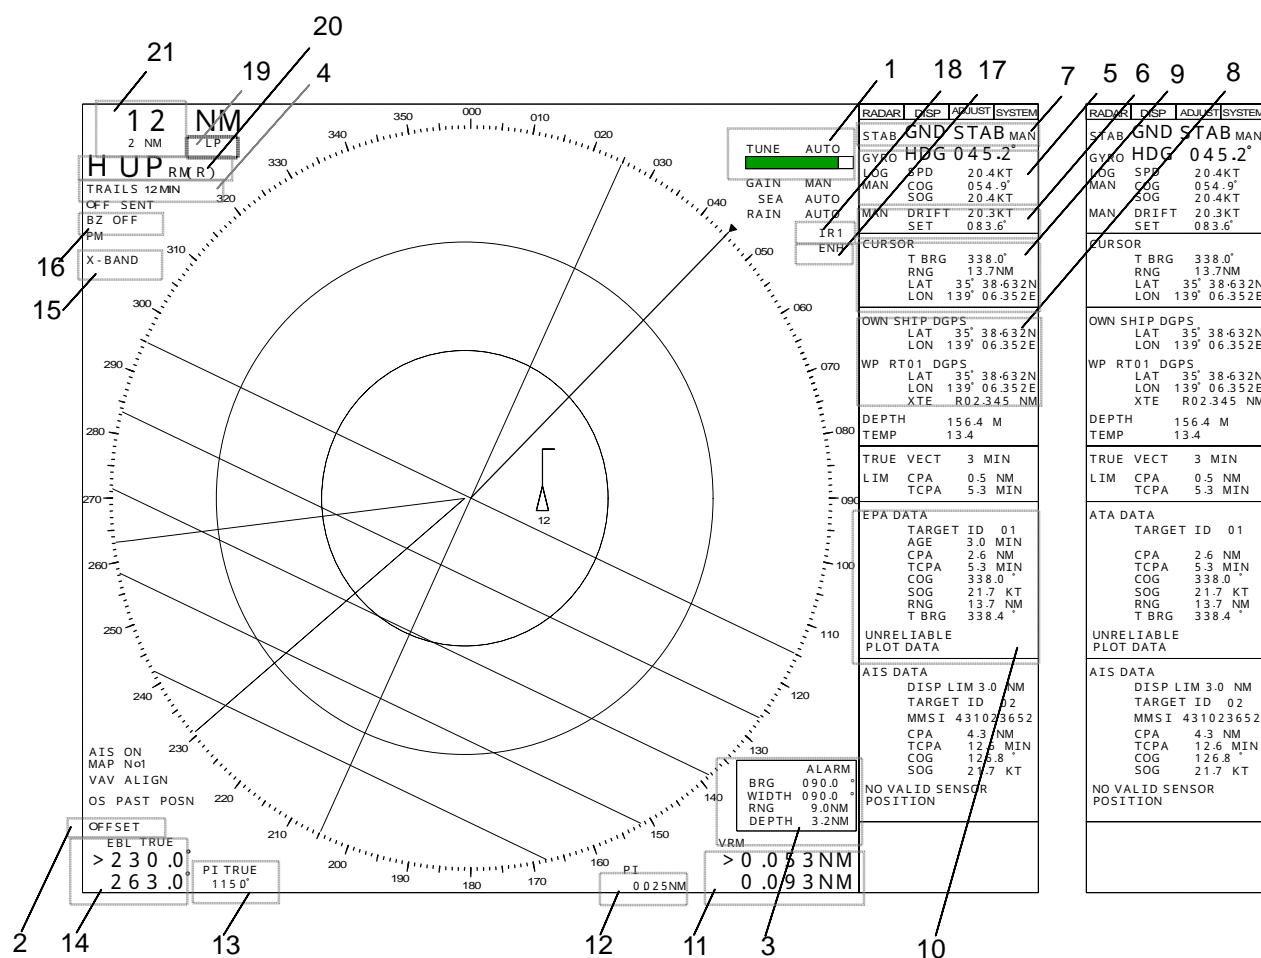

Figure 5.2 RA83P/84P/85P/93P/94P/95P On-screen information
- (1) Press the POWER ON/OFF key switch. The red LED lamp lights accordingly and a 3-minute timer starts to count down. At the same time, the following information will be shown on the screen.
- (2) When the countdown timer finishes, the STANDBY sign will appear on the screen.
- (3) Press the STBY/TX key to transmit. The radar starts transmission and the radar video, alphanumeric and graphic information will be shown on the screen at a preset brilliance level. Refer to Figure 5.2 for possible screen presentation.
All available screen presentations are shown in Figure 5.2 and respective meanings are given under the illustration.